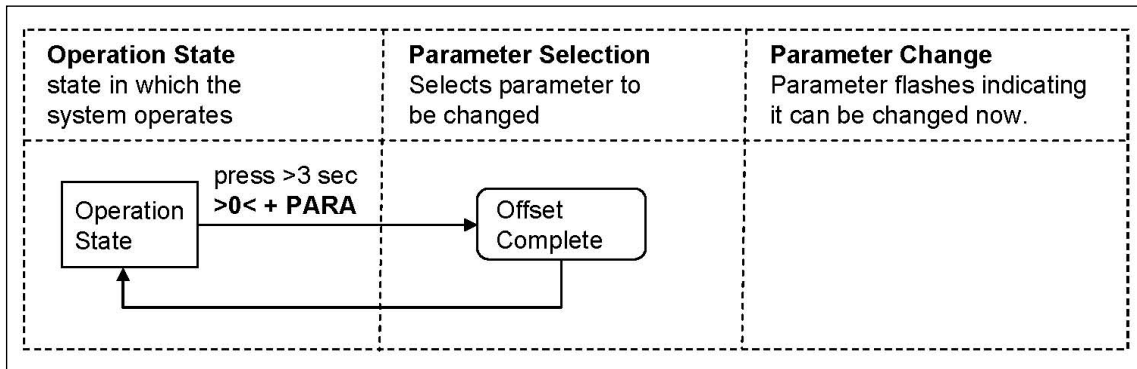

Fig. 6: State diagram offset compensation
3. The display will show [**Offset Complete**] when the process is finished (see Fig. 6 State diagram offset compensation).